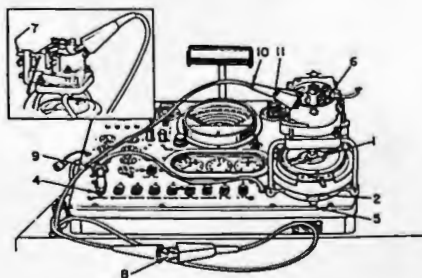

Fig. 1
- 5 Open test set interrupter points. (This is accomplished by pulling out the small handle at base of stroboscope) (see Fig. 1).
- 9 Plug meter on adapter in % of dwell socket (Fig. 1).